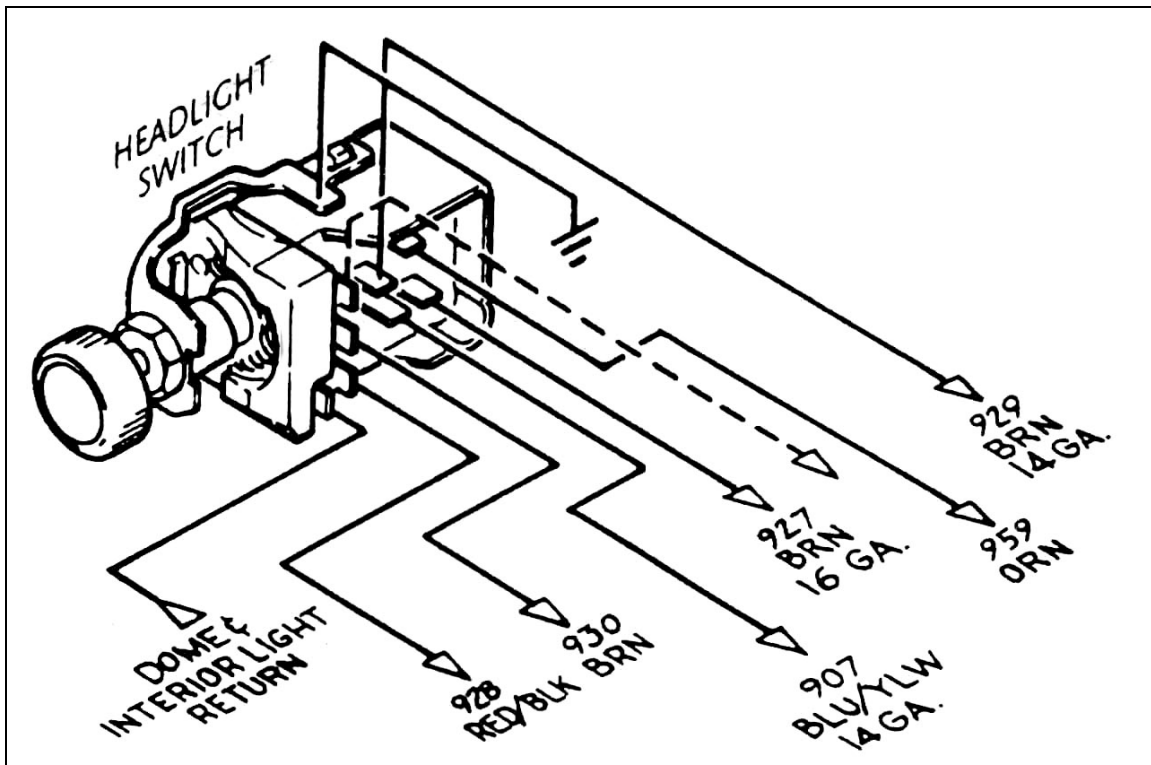

Figure 5-6 HEADLIGHT SWITCH (GM Style – Painless Part #80152)
- 5.4.1** Interior Lights are switched through the door switches and the dash-mounted headlight switch, which is usually rotated counter-clockwise to turn on. These switches apply ground to the circuit. 12V is continually present at the light bulbs. See **Figure 5-6**.
5.6 HEADLIGHT SWITCH Wiring. See Figure 5-6.
*Note: On late-style GM headlight switches, the park lights terminal to which wire #927 (brn) is connected (shown in **Figure 5-6**) has been omitted. In this case, wire #927 must be connected as indicated by the dashed line in **Figure 5-6**.*